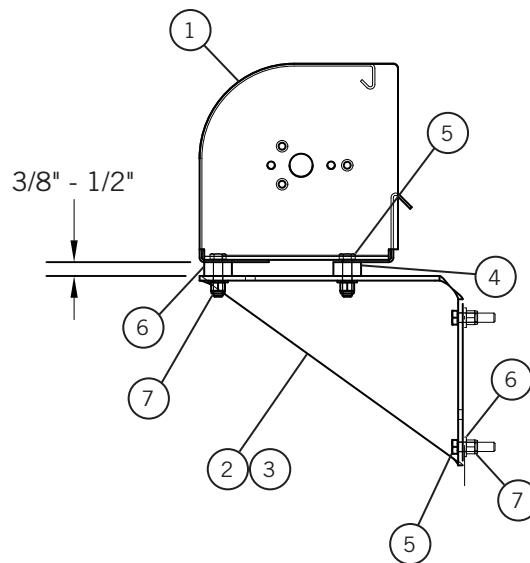

Figure 1
- 1) See **Figure 1**. Turn tarp housing (1) upside down and position mounting housing bracket trailer (2) 12" in from each end, evenly spaced in between, and flush with the front of the tarp housing (1) (not the end plates). Keeping brackets straight and parallel with end plates, mark holes through brackets. There will be 4 brackets evenly spaced across the tarp housing and 12" from each end.
- 3) Attach mounting brackets with rubber bushings (3), 1/2-13 x 2 hex bolt (4), 1/2 flat washer (5), and 1/2 - 13 nylon hex nut (6). Tighten until bushings compress to approximately 3/8" to 1/2".
- 4) See **Figure 1**. Hold housing up to trailer firmly, center on trailer and trace holes in mounting brackets. Drill marked holes using 17/32" drill bit.
- 5) Attach with 1/2-13 x 2 hex bolt (4), 1/2 flat washer (5), and 1/2-13 nylon hex nut (6).